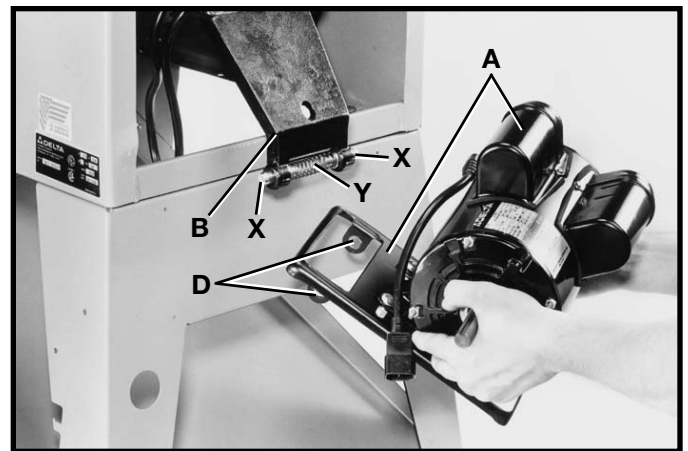
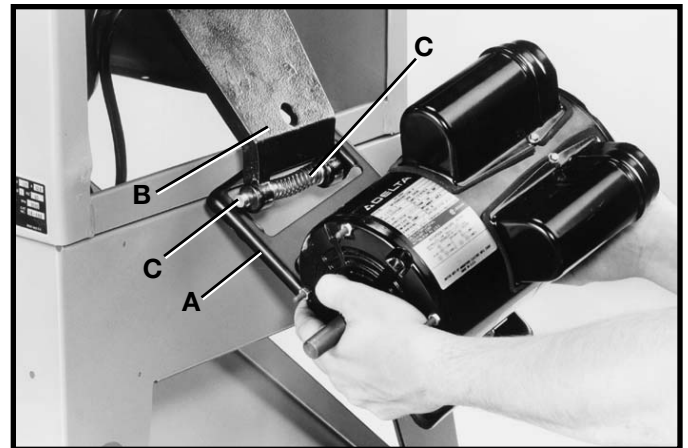

Fig. 16
Fig. 17
1. Depress two pins (X) Fig. 16 and insert into holes (D) in each side of bracket (B). Pins are spring (Y) loaded from factory.
2. Position motor and motor mounting plate (A) Fig. 17 below bracket (B) to allow bracket arm to slide through large opening in motor mounting plate (A).
3. Depress pins (C) Fig. 17, on both sides of bracket (B) and rotate motor mounting plate (A) until pins (C) are engaged in holes (D) Fig. 16, of motor mounting plate (A).